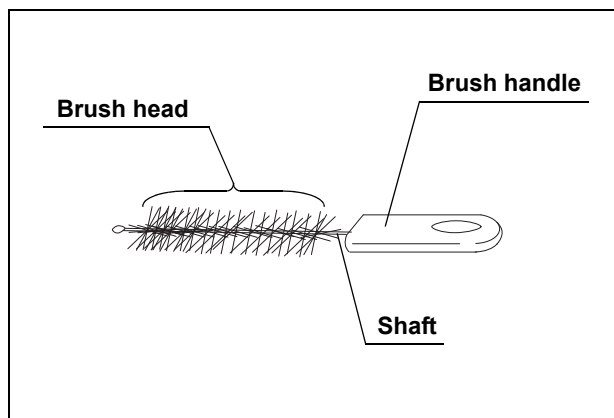

Figure 7.6
The channel-opening cleaning brush is used to brush the external surface of the distal end of the endoscope, the suction cylinder, the irrigation port, and the instrument channel port (see Figure 7.6).
1. Check the brush head for loose or missing bristles (see Figure 7.6 on page 92).